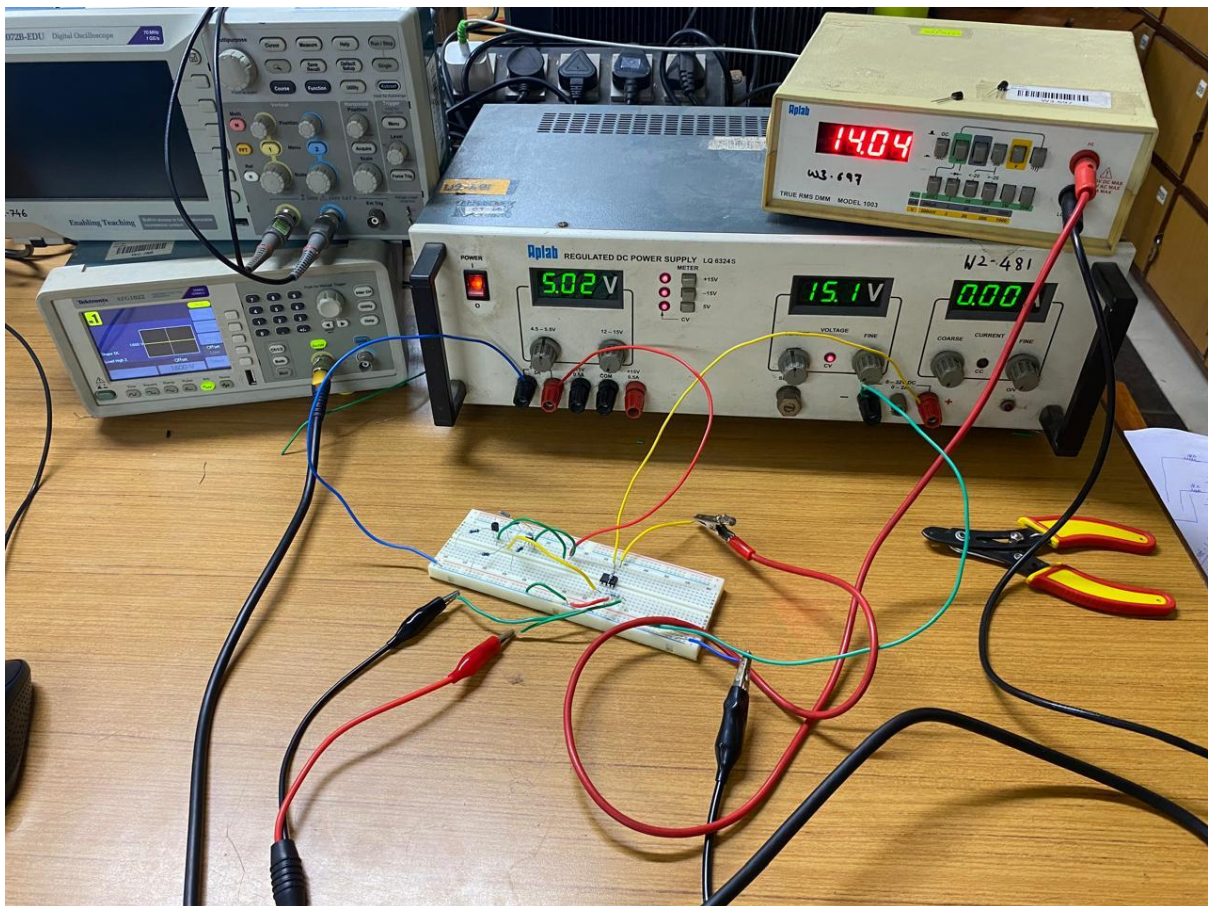

Fig 1
- If both the base terminals of q1 and q2 are not connected to ground the motor will be on and it will pump the water (refer fig 1)
- If both the base terminals are grounded the motor will turn off (refer fig 1)